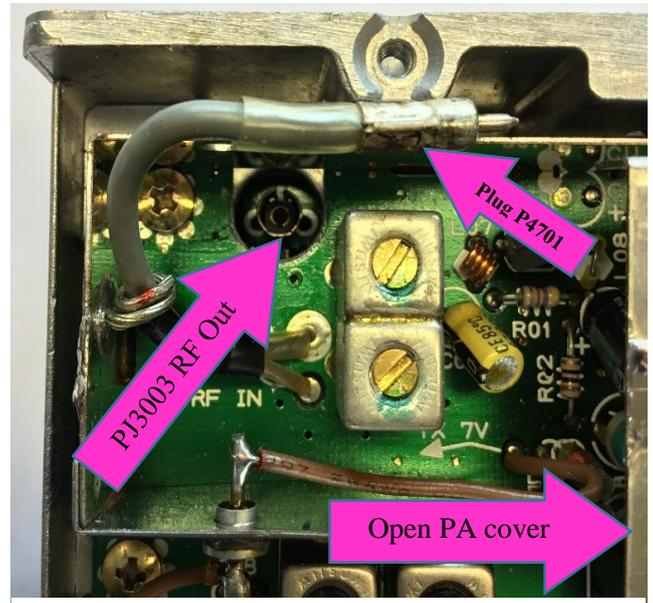

Fig. 4 (PLL/PA Board)
**Note:** Remove plug **P4701** in the PA unit from **PJ3003** (RF Out) on the Main Unit for all of the steps in this section (B). (Ref. Fig. 4)
- Remove the voltmeter, and replace P4701 in PJ3003. (Ref. Fig. 4)
**Note:** Remove plug P4701 from PJ3003 (RF Out) on the Main Unit for all of the steps in this section (D). (ref. Fig. 4)
**Note:** Plug P4701 must be disconnected from PJ3003 during this procedure. (Ref. Fig. 4)
- a) Connect plug P4701 (if removed earlier) to PJ3003. (Ref. Fig. 4)